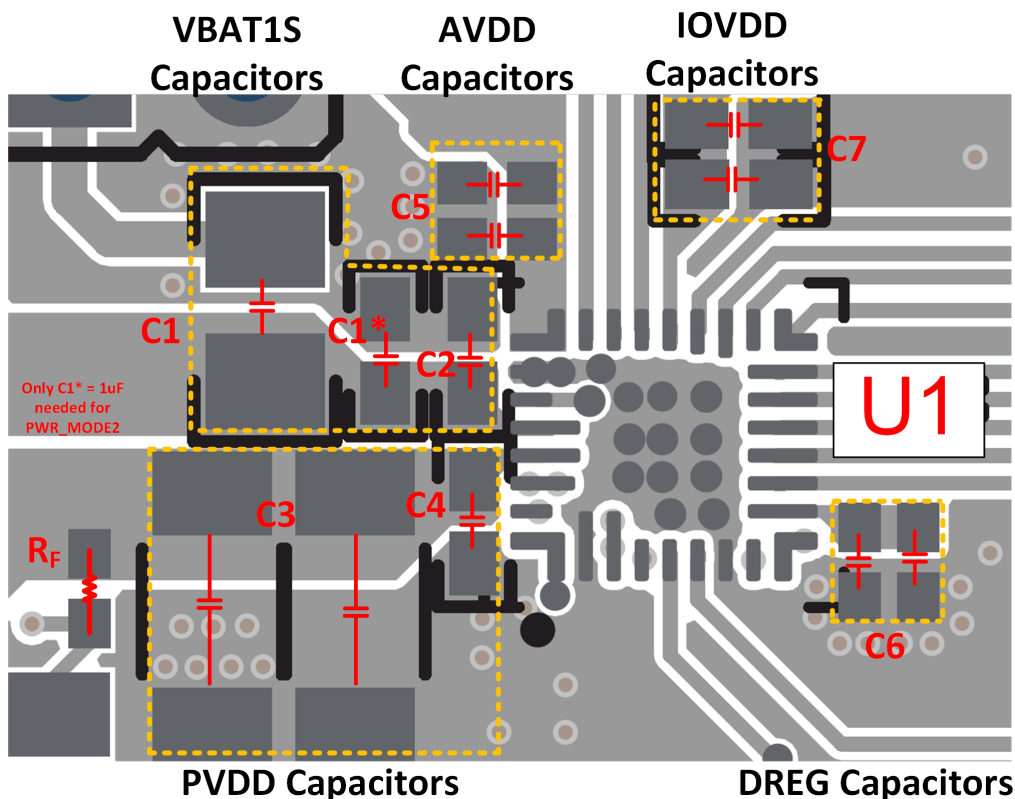

Figure 12-1. Layout and Component Placement - Top Layer
- Place decoupling capacitors of PVDDH and PVDDL as close as possible to the pins (see Figure 12-1).